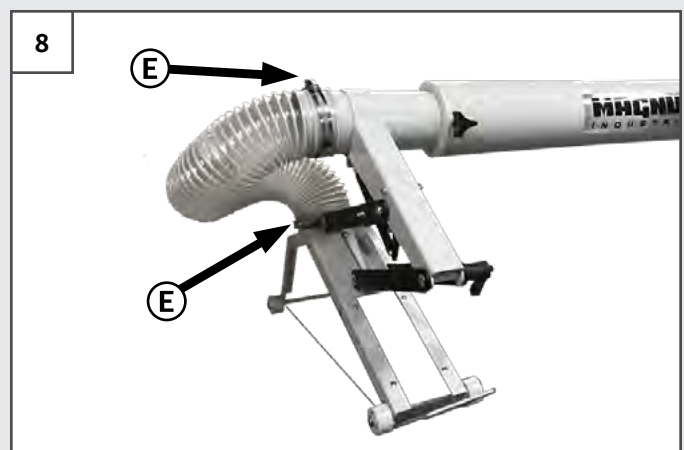

FIGURE 8: CONNECTING THE DUST HOSE
Connect the dust collection hose to the hood and the inner boom using the two supplied **HOSE CLAMPS (E)**. See Figure 8.